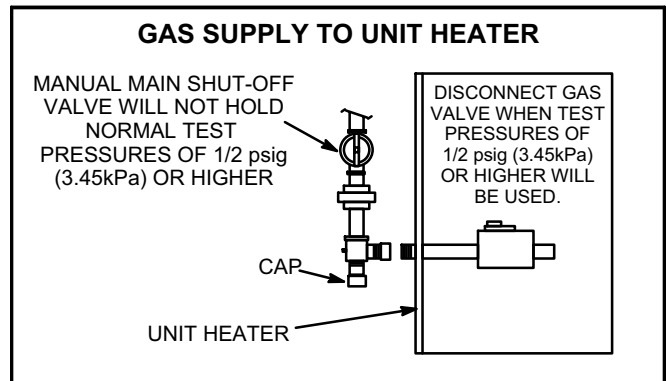

FIGURE 9
**The heater and its individual shut off valve must be disconnected from the gas supply piping system during any pressure testing of that system at test pressures in excess of 1/2 psig (3.45kPa). See figure 9.**
- 2 - After line pressure has been checked and adjusted, check regulator pressure. Correct manifold pressure is shown on the unit rating plate. See figures 9 and 10 for gas pressure adjustment screw location. A natural gas to LP/propane gas changeover kit is required to convert the unit in the field. Refer to installation instructions provided with changeover kit for conversion procedure.